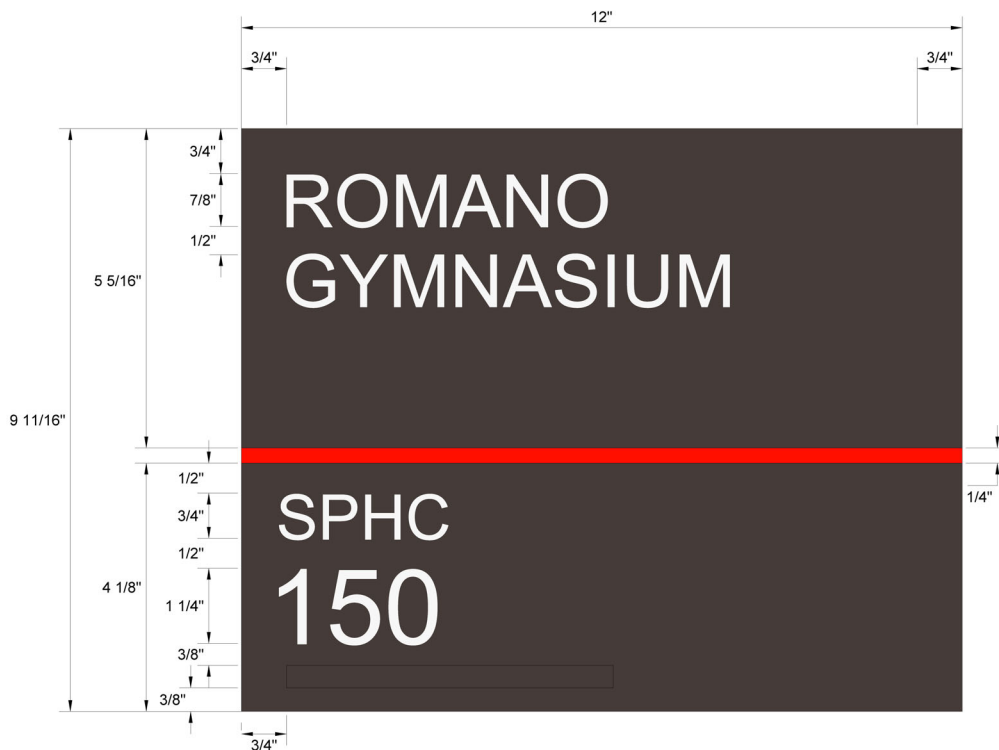

Figure 14.9
- 14.9. UMD B3 sign elevation shall comply with figure 14.9.